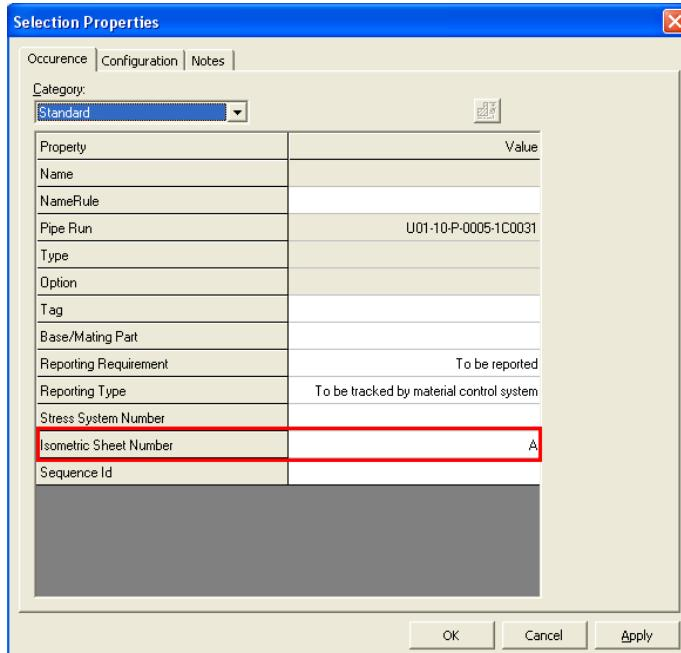

Figure 29: Selected Pipe Parts Properties
31. Right-click the selected parts and open the properties dialog box to assign the selected piping parts to an isometric sheet number **A** for creating an isometric drawing. Key in **A** in the **Isometric Sheet Number** box in the **Selection Properties** dialog box, as shown in Figure 29, and click **OK**.